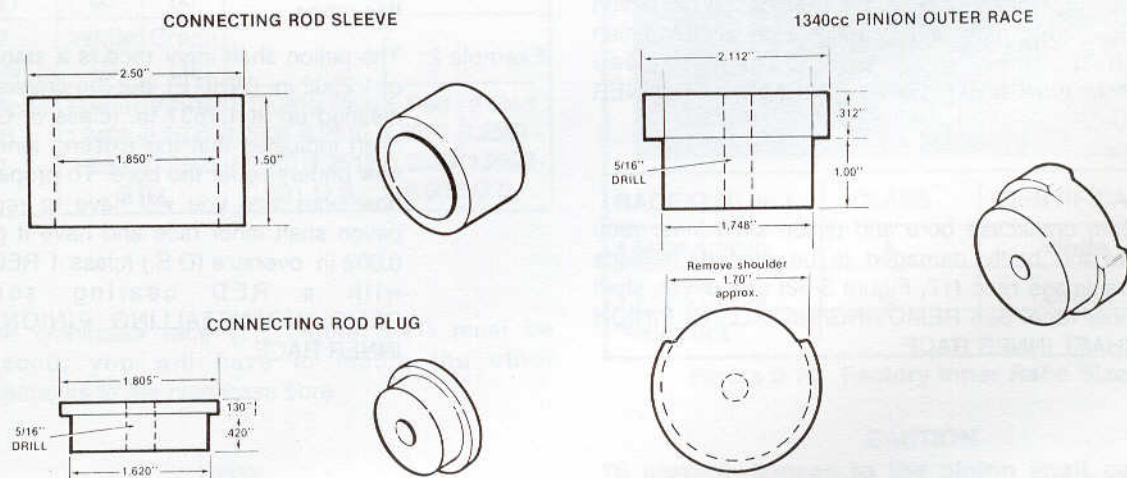

Figure 3-72. Manufactured Tools
- See Figure 3-72. Make a plug and sleeve to the dimensions shown.